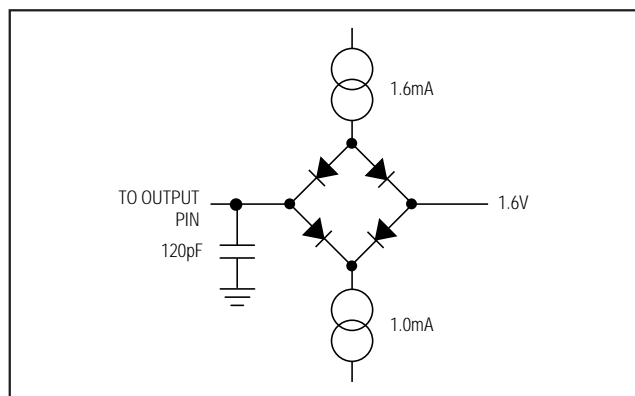

Figure 1. Load Circuit for Access Time and Bus Relinquish Time
**Note 13:** The data-access time is defined as the time required for an output to cross 0.8V or 2.0V. It is measured using the circuit of Figure 1. The measured number is then extrapolated back to determine the value with a 25pF load.
**Note 14:** The bus-relinquish time is derived from the measured time taken for the data outputs to change 0.5V when loaded with the circuit of Figure 1. The measured number is then extrapolated back to remove the effects of charging/discharging the 120pF capacitor. Thus, the time given is the part's true bus-relinquish time, independent of the external bus loading capacitance.